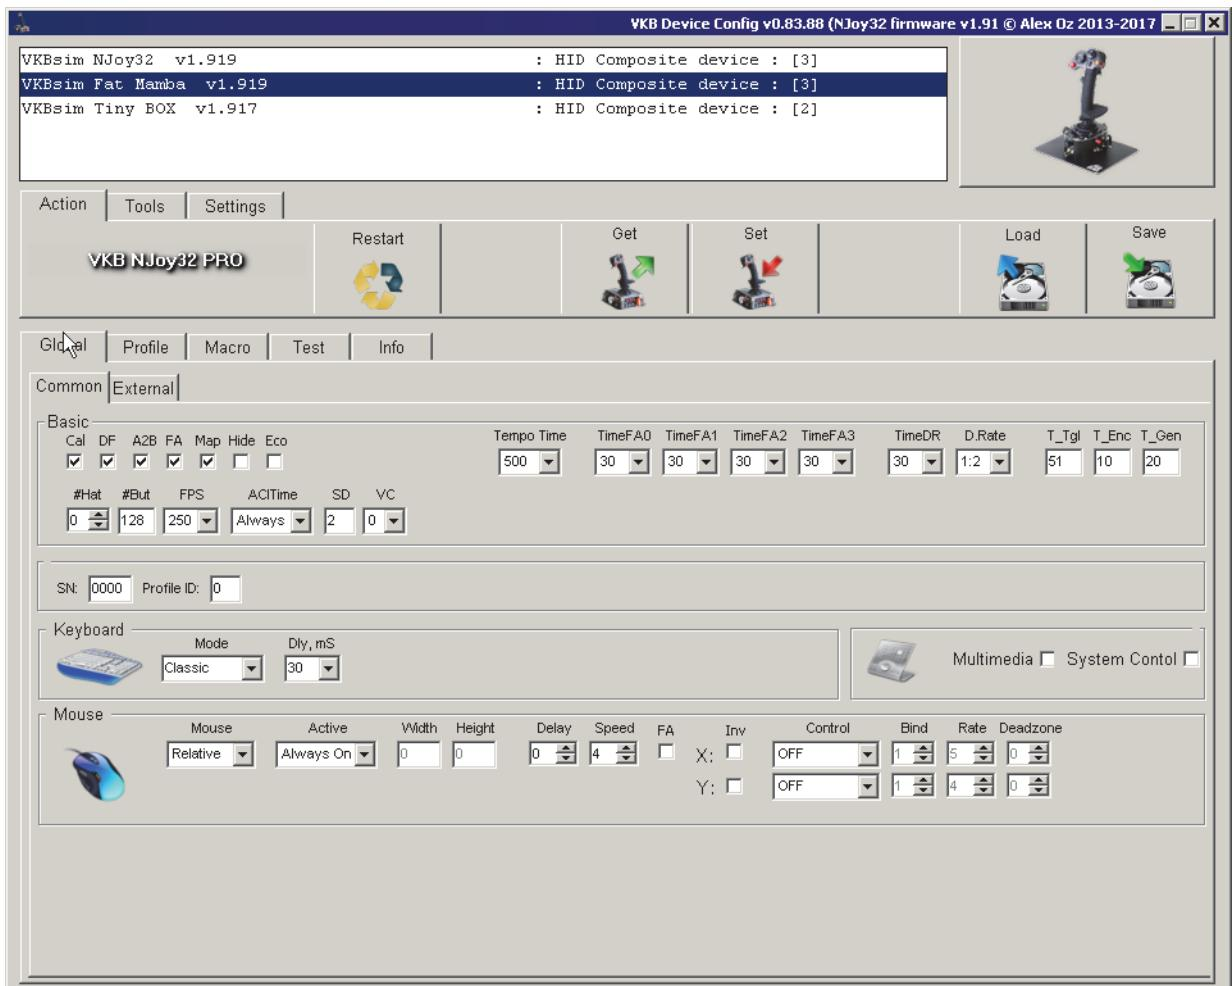

Fig. 2.1.
After you launch **VKBDevCfg-C.exe** the main **VKBDeviceConfig** window will appear. The title bar contains configurator version (Fig. 2.1).
2. Run *VKBDevCfg-C.exe*, select joystick name in the list (fig. 2.1 on p. 13).